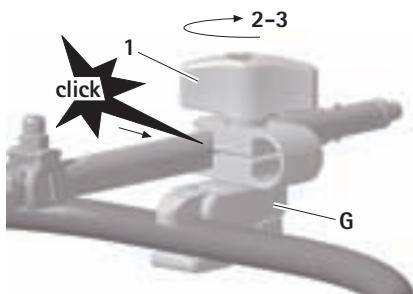

Fig. 7
- ▶ Click the coupling bar **B** or connecting piece with the quick-release coupling **A** into the jaw piece of the fastening clamp **G** and place it in the desired position, see Fig. 7.